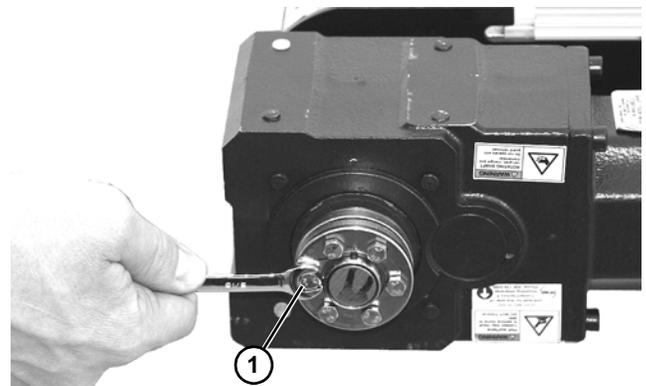

Figure 63
8. Tighten six hex head screws (**Figure 63, item 1**) to secure assembly onto shaft.